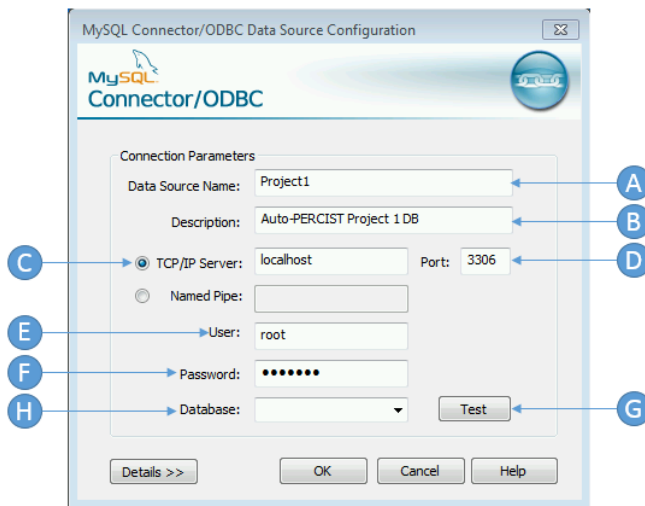

Figure 8-6 MySQL Connector/ODBC Data Source Configuration
The *MySQL Connector* dialog will present itself (Figure 8-6) and will initially be empty. You will need to provide a name for your connection (A), and you can also provide a more elaborate description of your